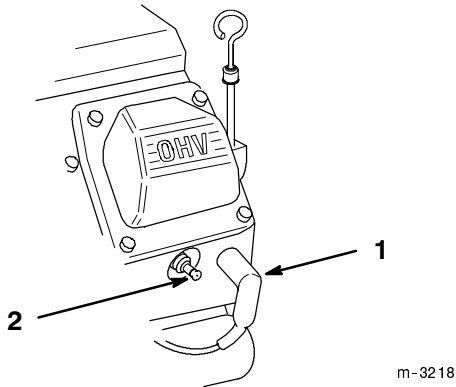

Figure 41
2. Pull the wire(s) off the spark plug(s) (Fig. 41). Now clean around the spark plug(s) to prevent dirt from falling into the engine and potentially causing damage.
3. Push the wire(s) onto the spark plug(s) (Fig. 41).